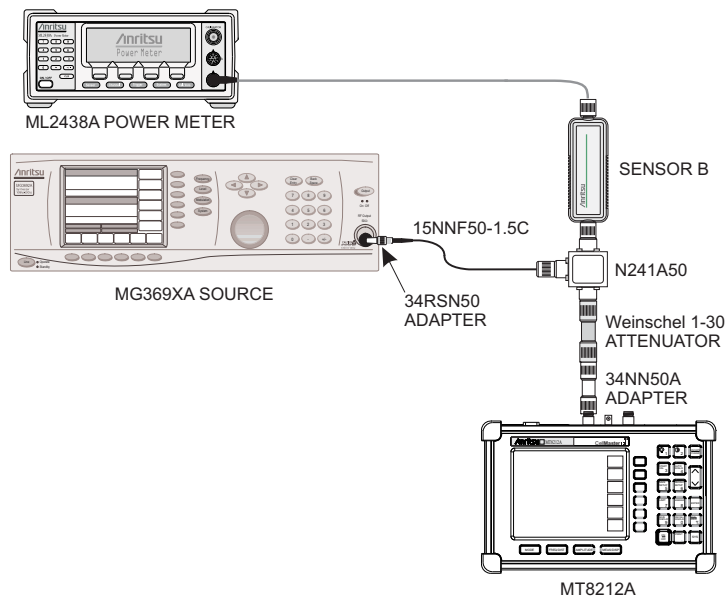

Figure 3. Level Accuracy Setup, 30 dB Attenuator
3. Using the power splitter, coaxial cable, adapters and fixed attenuator, connect the Cell Master to the signal source and the power sensor as shown in Figure 3.
33. Using the power splitter, coaxial cable, adapters and 30 dB fixed attenuator, connect the Cell Master to the signal source and the power sensor as shown in Figure 3.